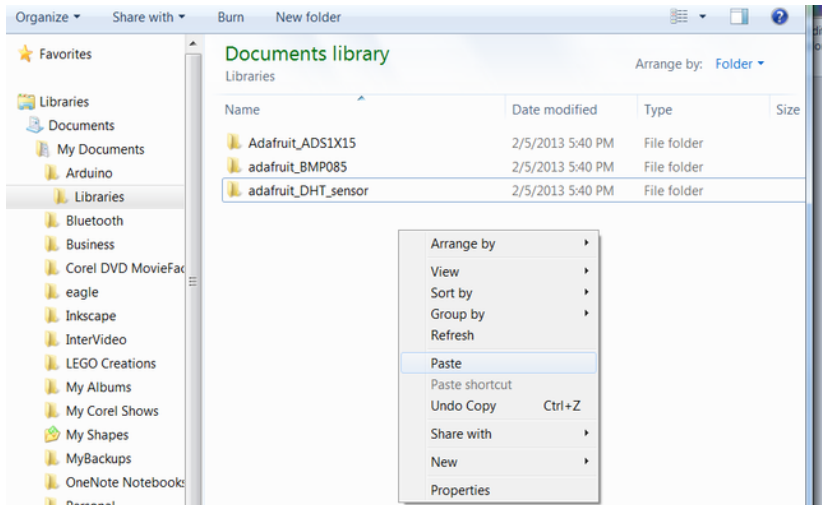

Figure 4-7. Pasting the library in your Arduino libraries folder
2. Open your sketchbook *Libraries* folder and paste the folder you copied from the ZIP file into it (see Figure 4-7). If the *Libraries* folder doesn't exist, create it.